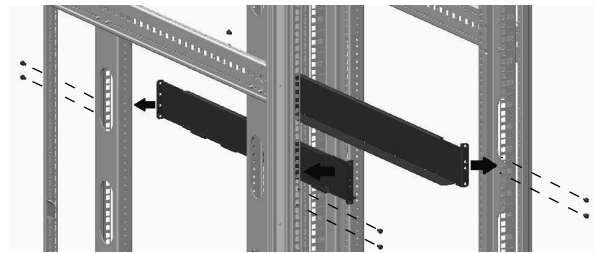

Figure 2. Install Rail Kit
1. Install the 4-post rail kit included with the BPM (see Figure 2).